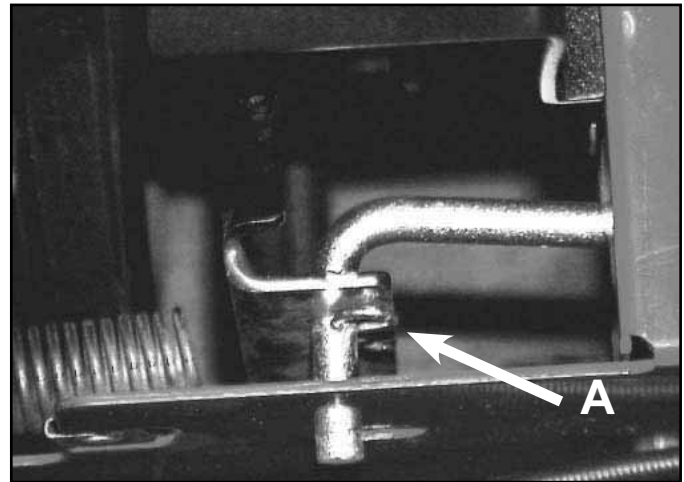

Fig 108 MVC-897X.jpg
11. Remove the hairpin from the speed control link (Fig. 108). This is most easily accessed from the top of the machine. The link is on the left side under the belt cover. Slide the link out of the pulley pivot assembly.